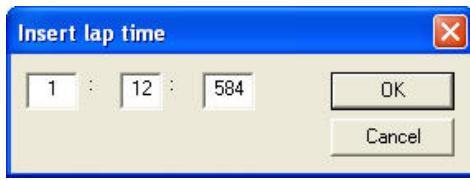

Fig. 4.19– Insert lap time window
Select the lap you wish to split (**double click** on the lap number) and press button “Insert lap” (4). The Insert lap time window is shown in Figure 4.19 and described below.